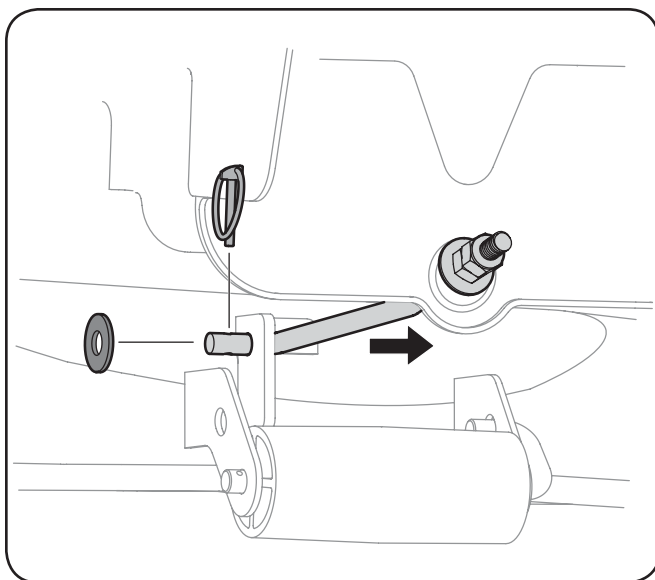

Figure 7-4
8. Remove the cotter pin from the end of the stabilizer rod and slide the stabilizer out of the hanger bracket on the deck. See Fig. 7-4.